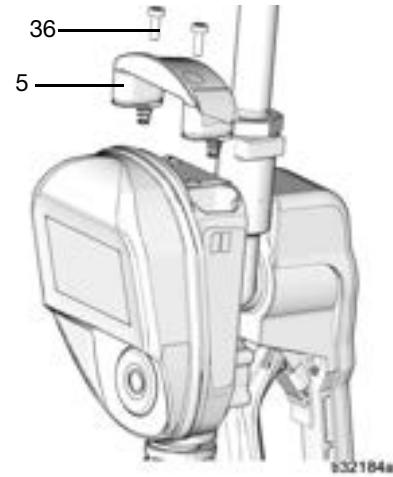

FIG. 49
- Replace cover (5) and screws (36). Do not over-tighten screws (FIG. 49).